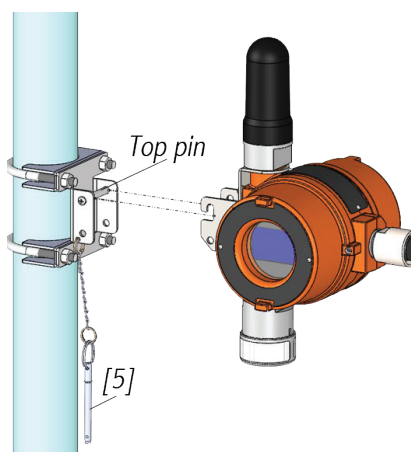

Figure 11
6. Mount device by hooking onto top pin of mounting bracket plate (see Figure 11).